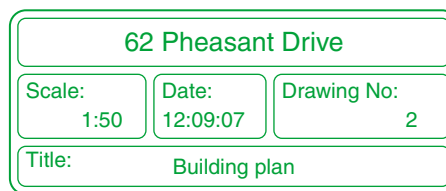

Fig. 11.1 The title block from Drawing number 2 of the sheet set drawings
1. Construct a template **62 Pheasant Drive.dwt** based upon the acadiso.dwt template, but including a border and a title block. Save the template in a **Layout1** format. An example of the title block from one of the drawings constructed in this template is shown in Fig. 11.1.